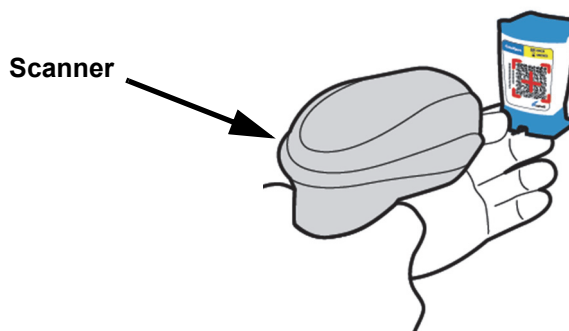

Figure 5-16. Scanning a Cartridge Barcode
Using the hand-held scanner is similar for all scanning operations, such as scanning the Sample ID and the cartridge barcode, although this section describes the scanning of the cartridge barcode. See Figure 5-16.
1. Scan the barcode by holding the scanner about 8 to 10 inches from the barcode, aligning the laser on the scanner to the barcode image. Figure 5-16 shows a cartridge barcode being scanned.